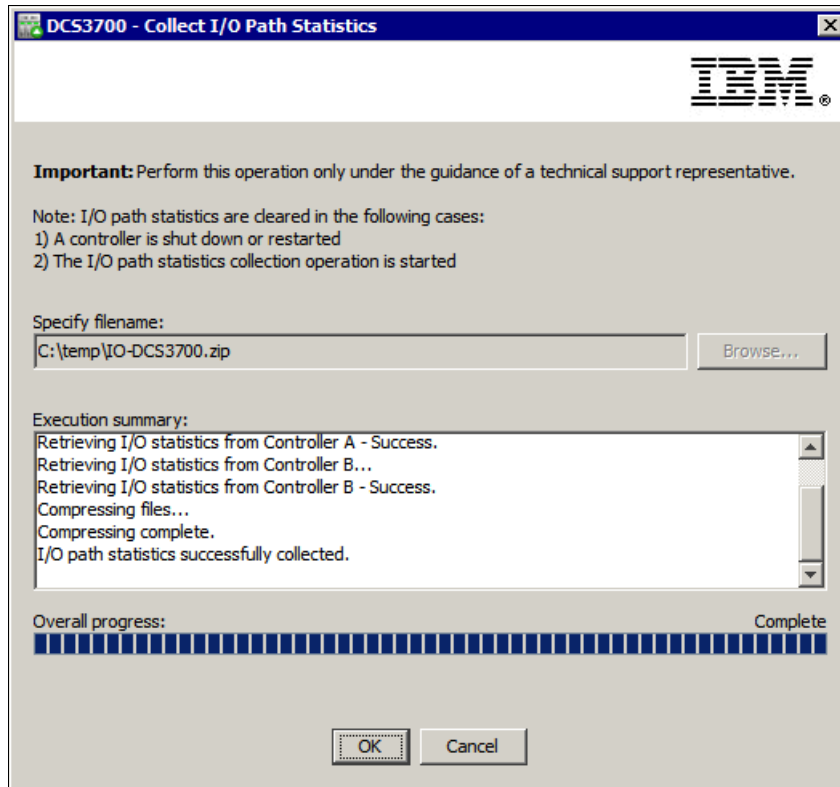
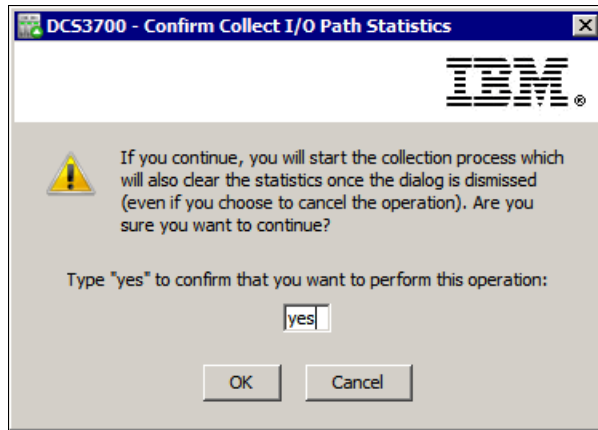

Figure 13-16 I/O Path Statistics collected
Figure 13-17 Confirmation window before you start Collecting I/O Path Statistics
To start this procedure, click **Monitor** → **Health** → **Storage Subsystem Diagnostic** → **Collect I/O Path Statistics...**, which opens a window where a file name must be provided (Figure 13-16).
**Note:** After you click **OK** in Figure 13-16, the counters for the I/O path statistics are reset even if you later cancel the operation at the confirmation window that is shown in Figure 13-17.
After you enter the file name, click **OK**. A confirmation window opens (Figure 13-17 on page 403). If you want to proceed, enter yes in the field and click **OK**.